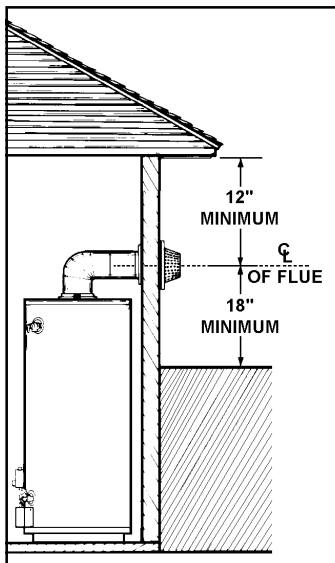

FIGURE 4
- 18" minimum from the ground and 12" from ceiling overhangs. Figure 4.